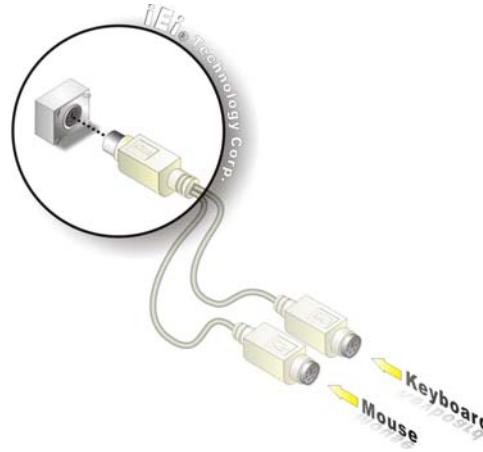

Figure 5-22: PS/2 Connector
Step 3: Insert the PS/2 connector Once the connectors are properly, insert the PS/2 connector from the keyboard and mouse cable into the PS/2 connector on the NANO-9453. See Figure 5-22.